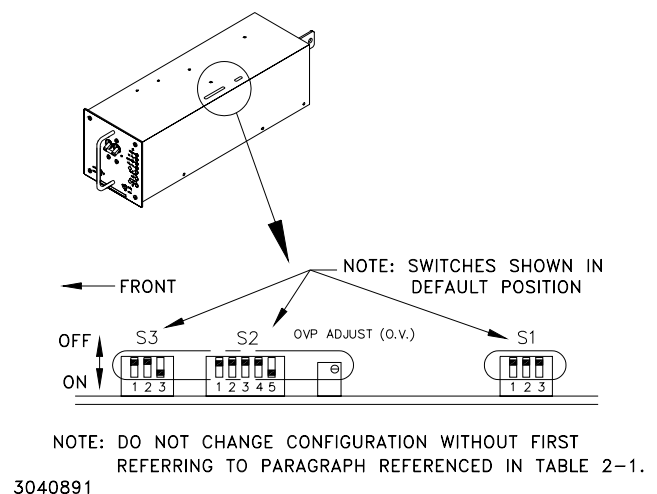

FIGURE 2-2. CONFIGURATION SWITCH FUNCTIONS
b) **Configuration Controls:** Refer to Figure 2-2 and Table 2-1.
Local, national and international safety rules dictate the grounding of the metal cover and case of any instrument connected to the a-c power source, when such grounding is an intrinsic part of the safety aspect of the instrument. The ground terminal of the source power connector (see Figure 2-2) is connected to the HSP chassis and the instructions below suggest wiring methods which comply with these safety requirements; however, it is the customer's responsibility to ensure that all applicable electric codes for safety grounding requirements are met.